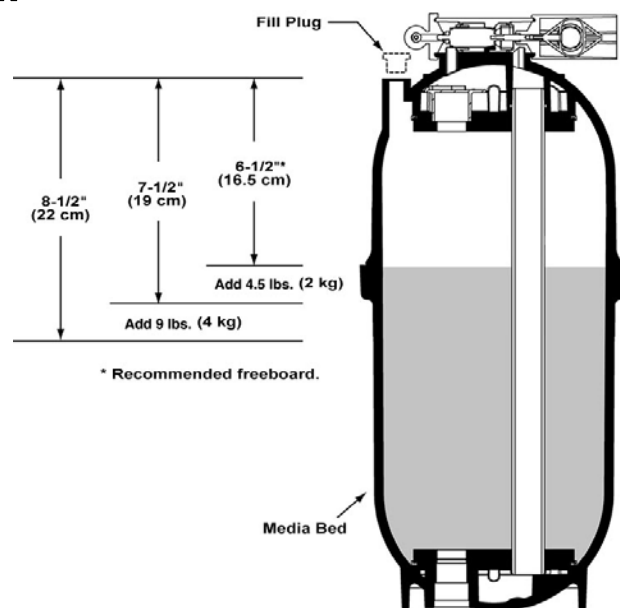

Figure 16: Maximum Freeboard Amount
- Measure the freeboard distance from the top of the tank to the media. See Figure 16.